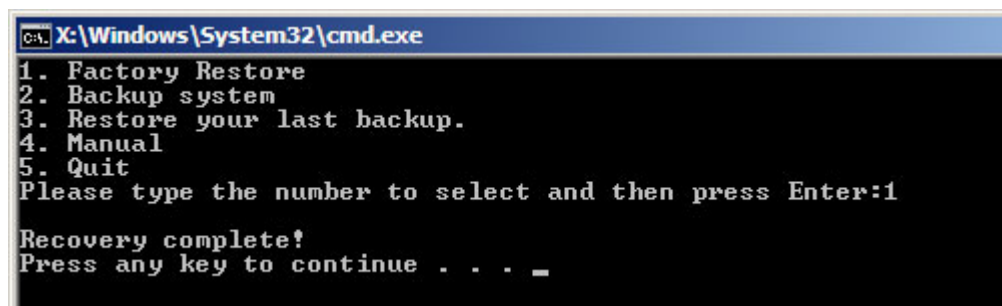

Figure B-36: Recovery Complete Window
**Step 3:** The screen is shown in **Figure B-36** appears when completed. Press any key to reboot the system.